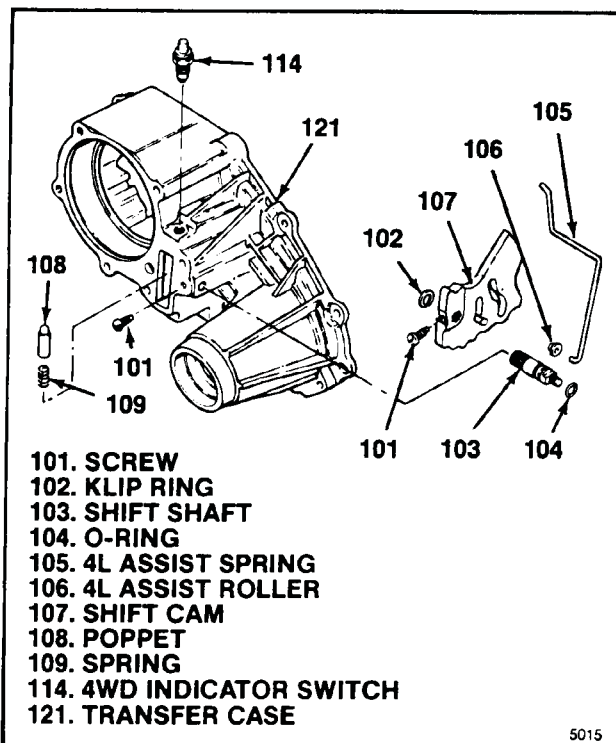

Figure 5-7. Mechanical Shift Cam Parts
**5-7. ASSEMBLY OF SHIFT CAM PARTS (MECHANICAL SHIFT TRANSFER CASE ONLY).** On mechanical shift units, install parts as follows (see figure 5-7):
a. Lubricate o-ring (104) and install on shift shaft (103). Start splined end of shift shaft into transfer case (121) until end is flush with inside of case. Position flats on outside end of shaft as shown in figure 5-7.
b. Apply petrolatum to spring (109) and poppet (108) and position these parts in hole in transfer case (121). Using care not to unseat poppet, insert shift cam (107) into transfer case in position shown in figure 5-7, with flat end of cam approximately parallel with front face of case. Pressing cam against poppet and compressing spring, align splines in cam and on shaft (103) and press shaft fully into cam.
c. Install klip ring (102) in groove near inside end of shift shaft (103).
d. Install two screws (101), one in end of shift cam (107) and one in transfer case. Torque screws to 4-7 lb-ft (6.8-9.5 Nm). Make sure that shift shaft (103) is fully engaged so that second screw end enters groove in shaft.
g. Install assist roller (106) on end of assist spring (105) and install in groove in shift cam (107) closest to shift shaft (103). Install other end of spring in hole in transfer case (121).
h. Install 4WD indicator switch (114) and torque to 25-35 lb-ft (34-47 Nm)